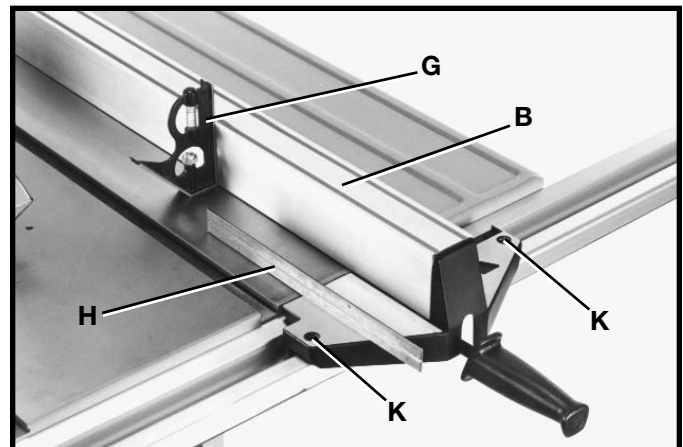

Fig. 19
4. Using a square (G) Fig. 19, and a straight edge (H), check to see if the rip fence (B) is perpendicular to the saw table and that the rip fence body is level with the saw table. If an adjustment is necessary, tighten or loosen either of two screws (K), until the fence is perpendicular and level with the saw table.